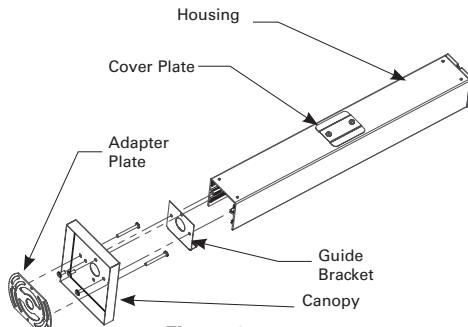

Figure 8
- For end mount, remove the endcap on the desired end, and replace it with the canopy and guide bracket (See Figure 8). Replace the cover plate over the hole in the center of the housing.